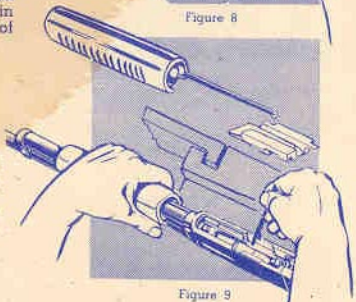

Figure 9
**ACTION SLIDE:**—Move fore-end rearward until all shoulders of slide are centered in the square cuts in receiver. Then while pulling slide upward move fore-end fully forward. Action bar is now free from slide. Hold slide up, make sure it is disengaged from breech block by moving breech block forward and lift slide out of receiver. (See Figure 9).